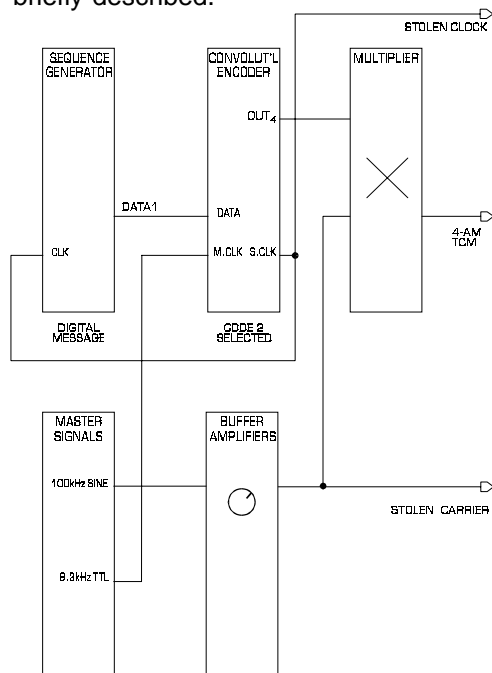

Figure 1: TCM ENCODER/MODULATOR BLOCK DIAGRAM
The modules required for the TIMS 4-AM TCM modulator are patched together as illustrated in Figure 1 on the previous page.
1. The modules required for the TIMS 4-AM TCM modulator are patched together as illustrated in Figure 1, on the first page of this chapter.